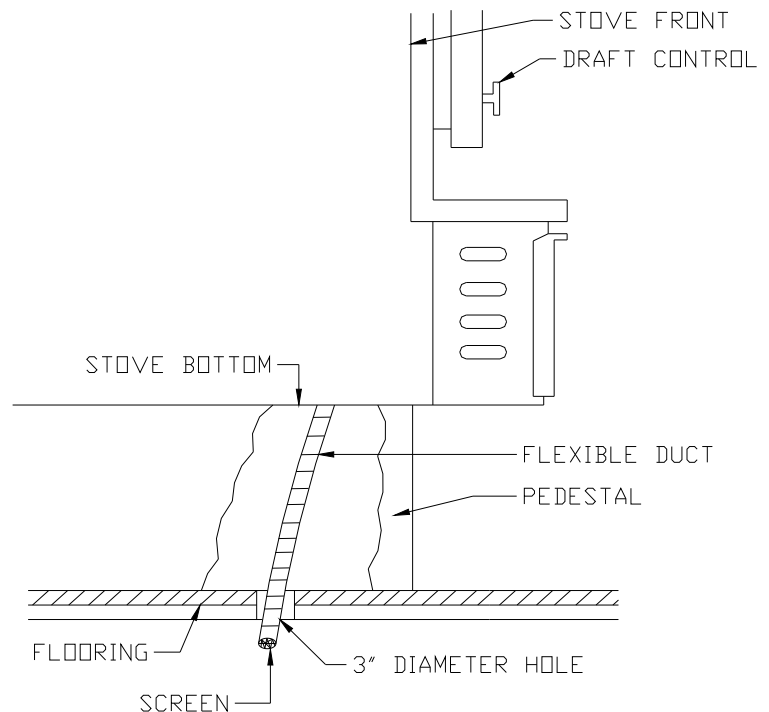

FIGURE 11
- (A) Position the pedestal on the floor protector where the stove will be installed.
- (B) Mark and cut a 3" diameter hole through the floor protector and flooring materials for the installation of the flexible duct.
- (C) Attach the flexible duct to the air pipe opening, then attach the pedestal to the bottom of the stove. (FIGURE 11)
- (D) Proceed with the normal freestanding installation.